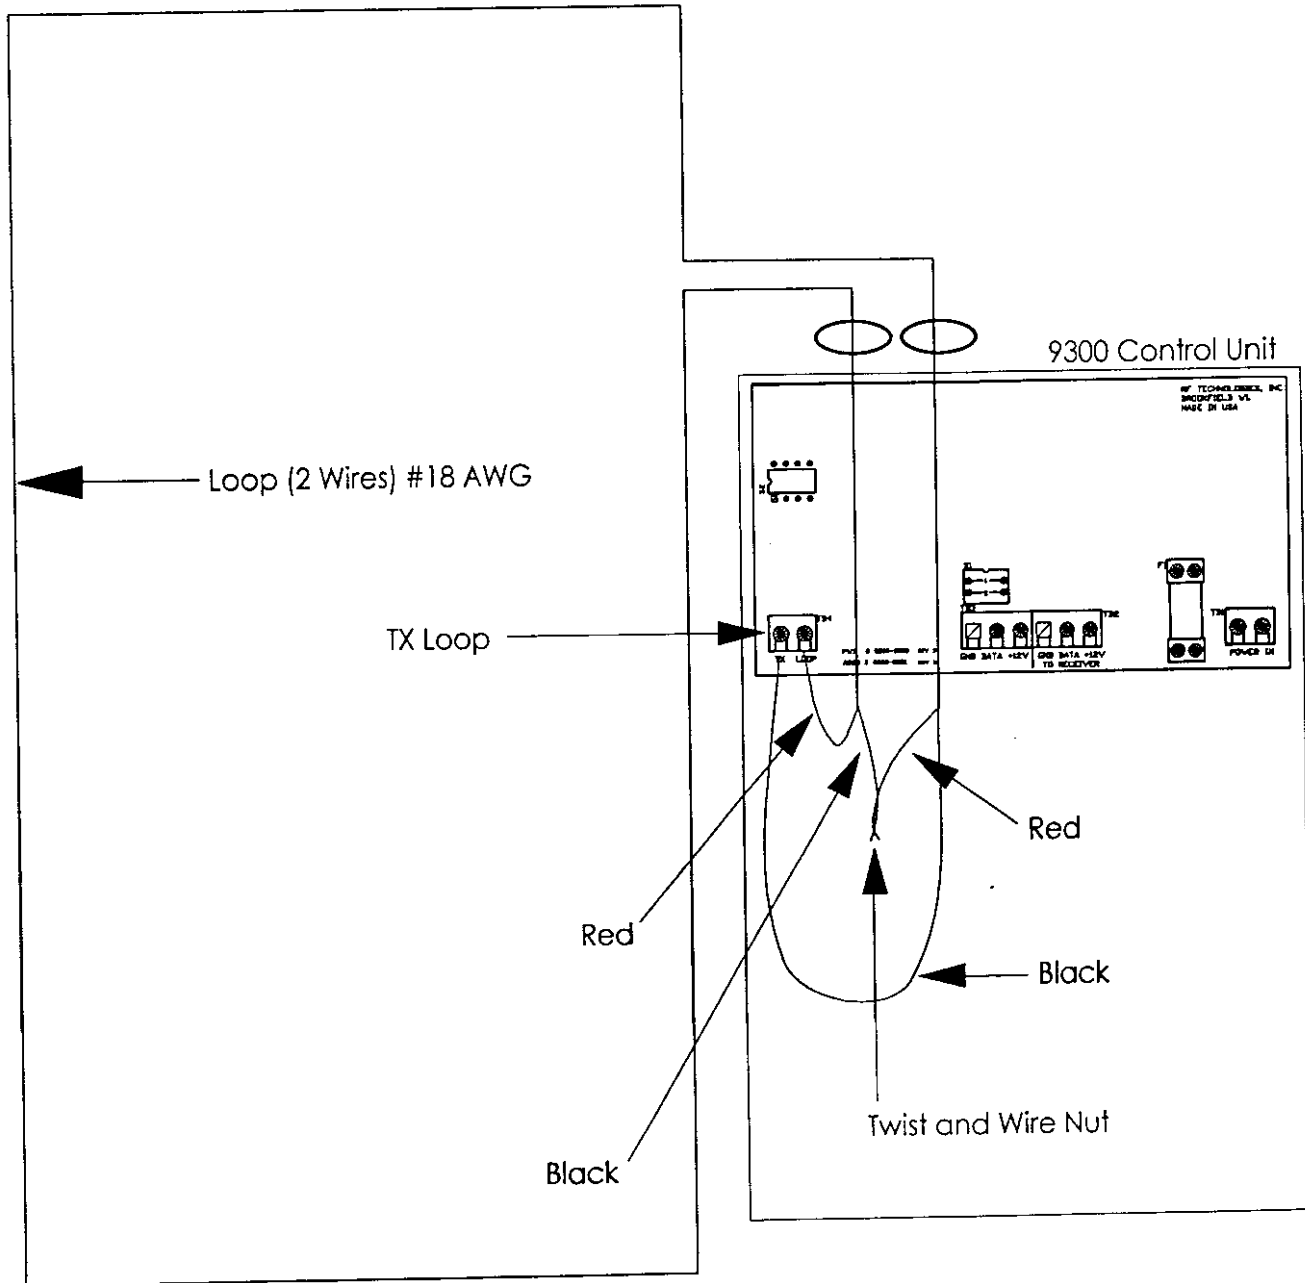

Figure 7: Wiring to Form 2 Loops Around Doors
3. Start the loop at the controller going up through the raceway via the "T" junction, around the door, then back through the raceway "T" junction to the controller. Wire as shown in figures 7, 8, and 9.